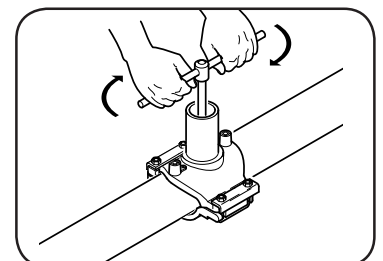

FIG.4
- 8 Proceed now with the perforation of the pipe through a specific cutter (see fig.4).